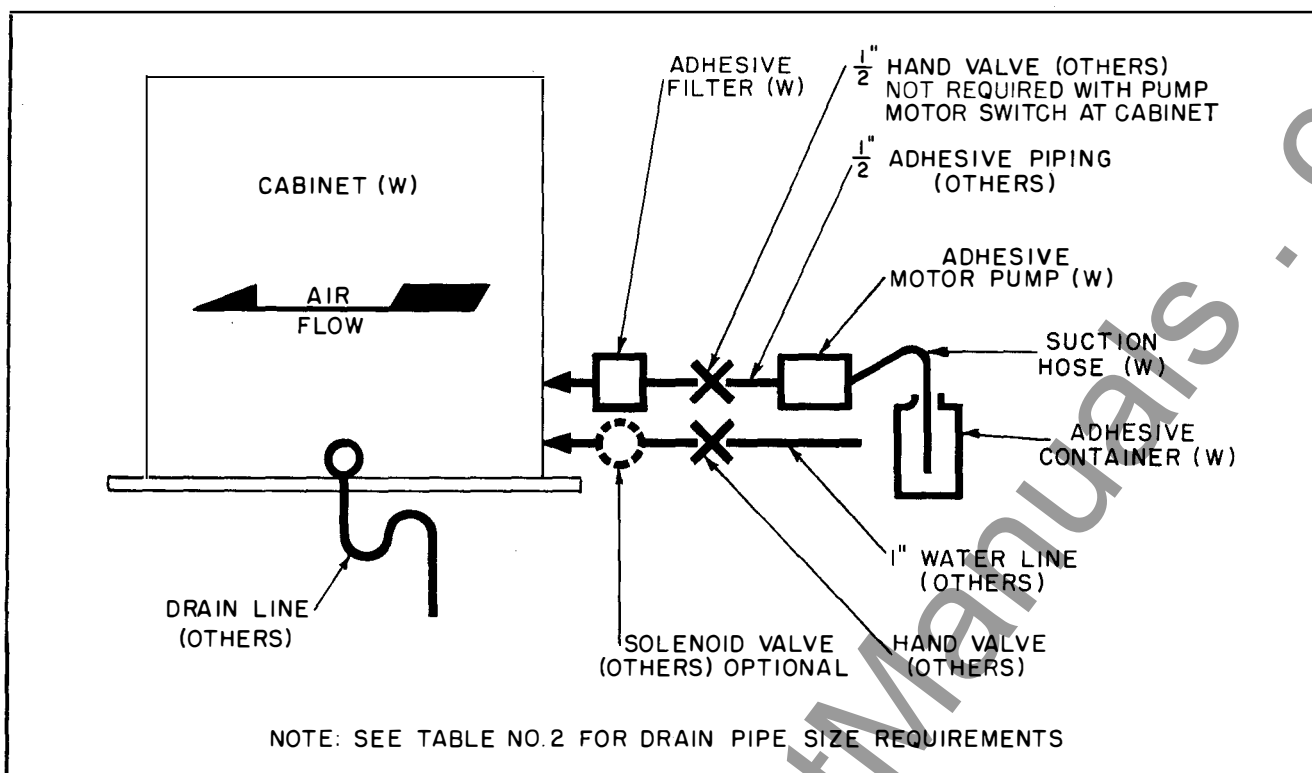

Fig. 4 Typical Water, Adhesive and Drain Piping
**Water Piping.** The water supply should be piped to the female fitting provided at the access panel side of the cabinet. See Fig. 4. Keep piping clean during installation. A hand operated water
valve (not supplied) is required to control the water flow. As an added convenience, an electrically operated water valve (not supplied) may be installed in the water line as shown in Fig. 4. See "Low Voltage Wiring" for connections. Piping and valves should not obstruct the clearance required at the access panel.
Install the adhesive filter in the discharge line close to the cabinet. See Fig. 4. This replaceable element filter is to prevent dirt from clogging adhesive nozzles. Piping and filter must not obstruct clearance space at access panel.